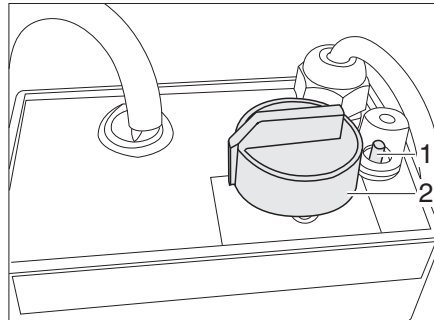

Fig. 305 Regulator for electrical floor warming/bed warming unit
- Turn the control knob (Fig. 305,2) to the desired heating level.
- Turn the control knob (Fig. 305,2) to the setting "0".
If the regulator is overloaded, the overload protection is actuated. The pin (Fig. 305,1) will trip.
- Press in the pin (Fig. 305,1) at the overload protection when the regulator has cooled down.